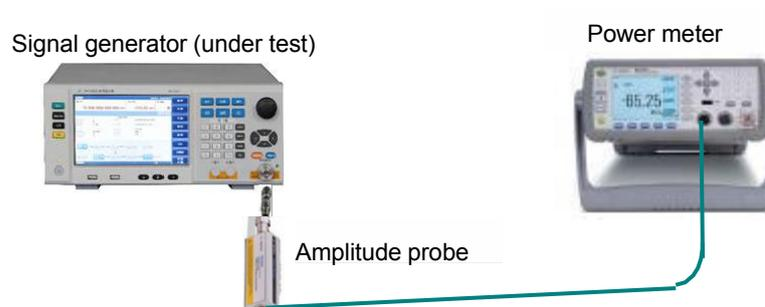

Figure 7.5 Amplitude test
1. Connect the equipment as shown in Figure 7.5, select E9304A for the power meter probe, start up the instrument and warm it up for at least 30 min.
1. Connect the instrument as per Figure 7.5, set the frequency of the signal generator to 9kHz, amplitude to 0dBm, and record the reading P1 of the power meter.
1. Connect the equipment as per Figure 7.5, start it up and warm it up for at least 30 min.